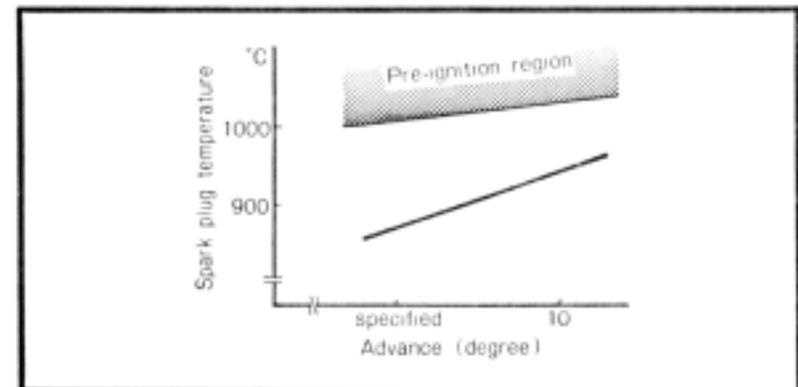

Fig. 5-5. Each degree of ignition advance entails higher chamber temperatures.
- Ignition advance. Within limits, additional ignition advance means more power. Unfortunately, each degree of advance takes its toll as heat (Fig. 5-5).